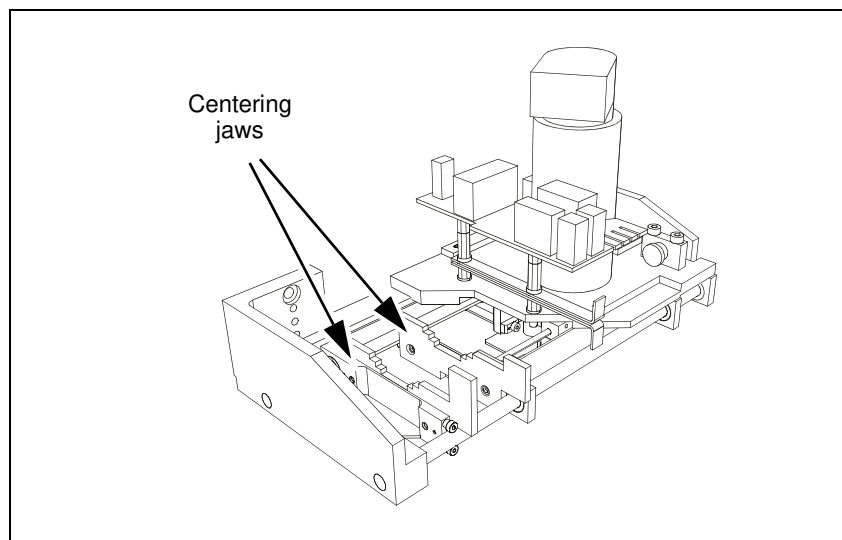

Figure 8-5. Centering Jaws.
2. Remove the old jaws (see figure 8-5) and replace with new ones.